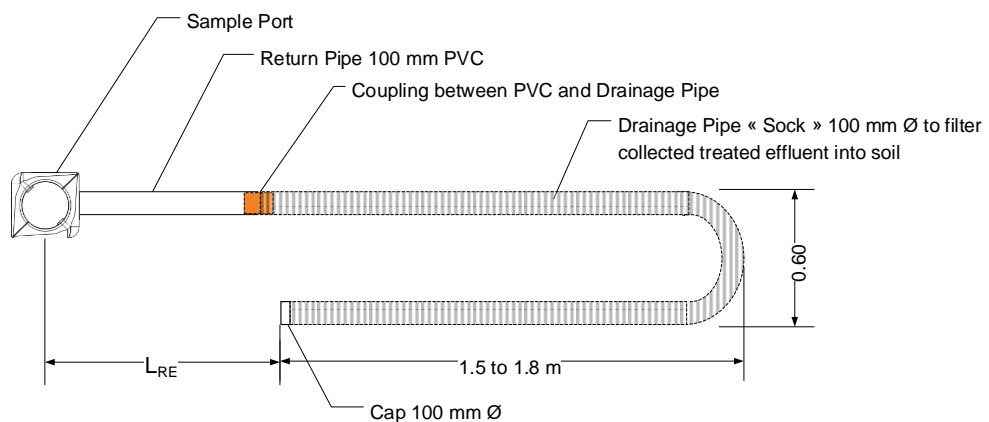

Figure 47
- Complete the installation of the drainage pipe as shown in Figure 47.